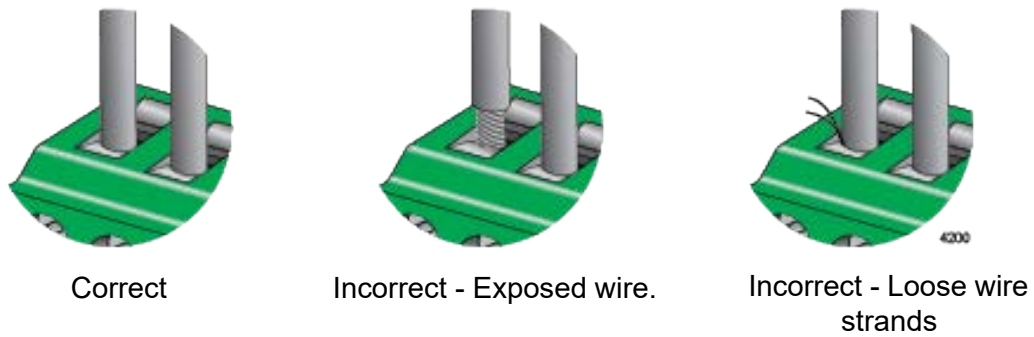

Figure 60. Verifying the Wire Installation
6. After attaching the wires to the connector, verify that there are no exposed wires or loose wire strands. Refer to Figure 60 on page 110.
- After attaching the wires to the connector, verify that there are no exposed wires or loose wire strands. Refer to Figure 60 on page 110.